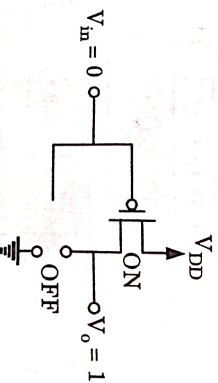

Fig. 1.13.3
- When input is low (≈ 0 V) Q_N is OFF and Q_P becomes ON, therefore the output becomes logic high ($V_o = V_{DD}$) as shown in Fig. 1.13.3.